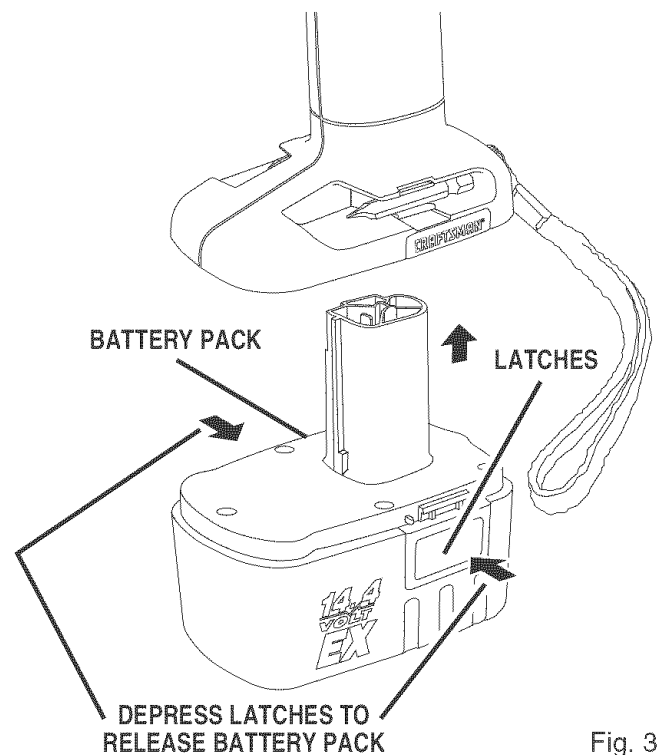

Fig. 3
See Figure 3.
- Place battery pack in the tool. Align raised rib inside tool with groove on battery pack. See Figure 3.
- Locate latches on end of battery pack and depress to release battery pack from the tool. See Figure 3.